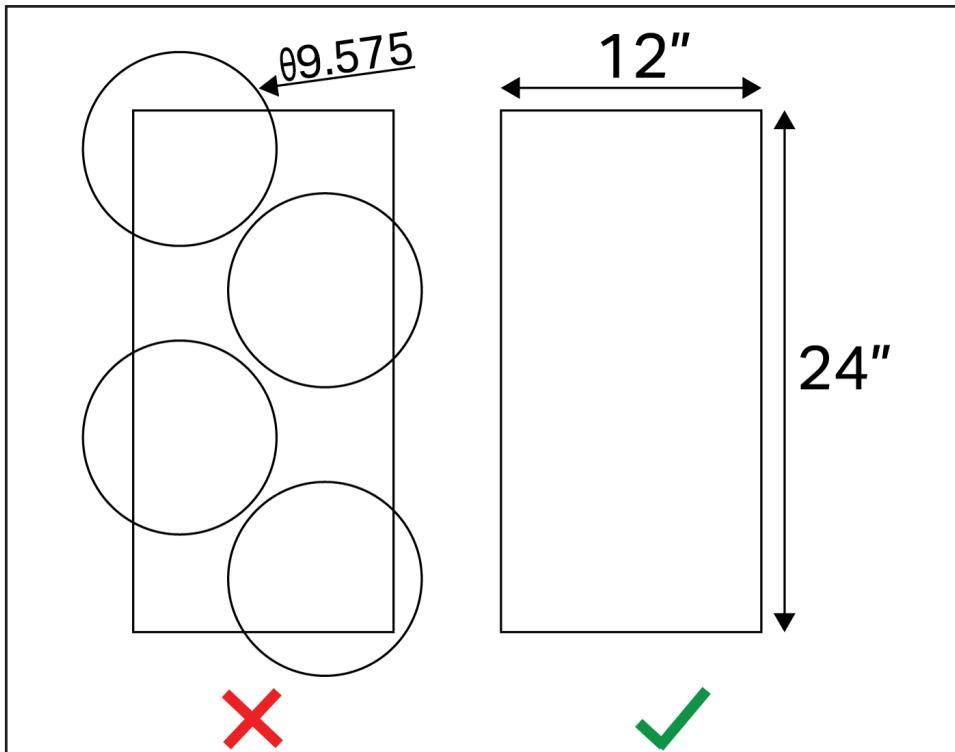

Figure 23: Custom plastic parts must fit within a single 12" x 24" sheet of plastic.
- i. A collection of parts which theoretically have a total surface area of 288 in2, but cannot be nested onto a single 12" x 24" sheet, would not be legal. See Figure 23.